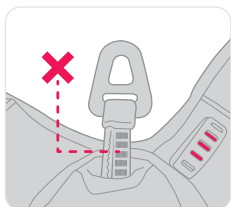

Figure 4
- Ensure that the descent line is not paid out of the device, this would indicate that a descent has occurred (Figure 4). If descent line is paid out the Latchways PRD descender device shall be removed from service and advise sought from MSA or authorised agent.